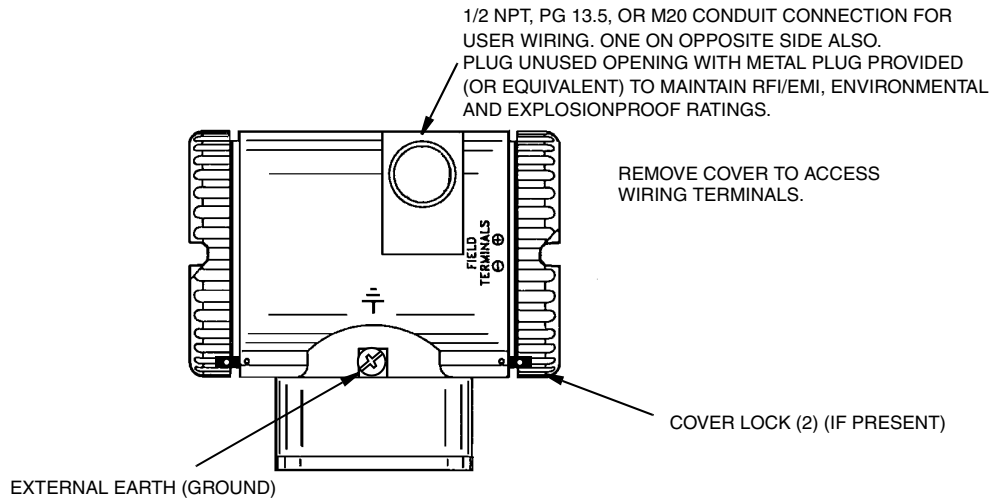
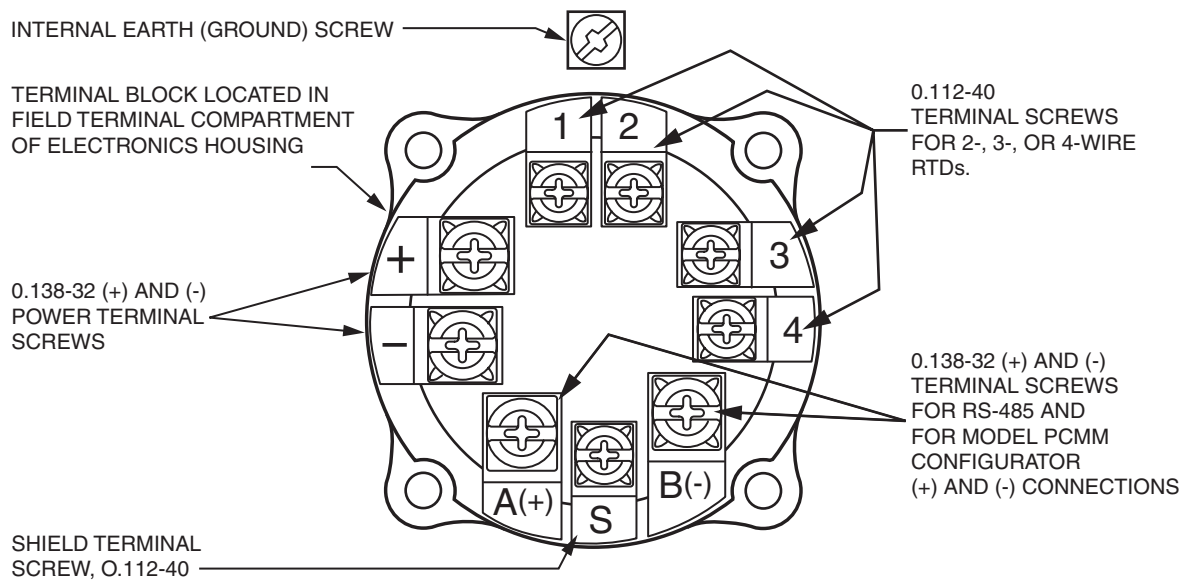
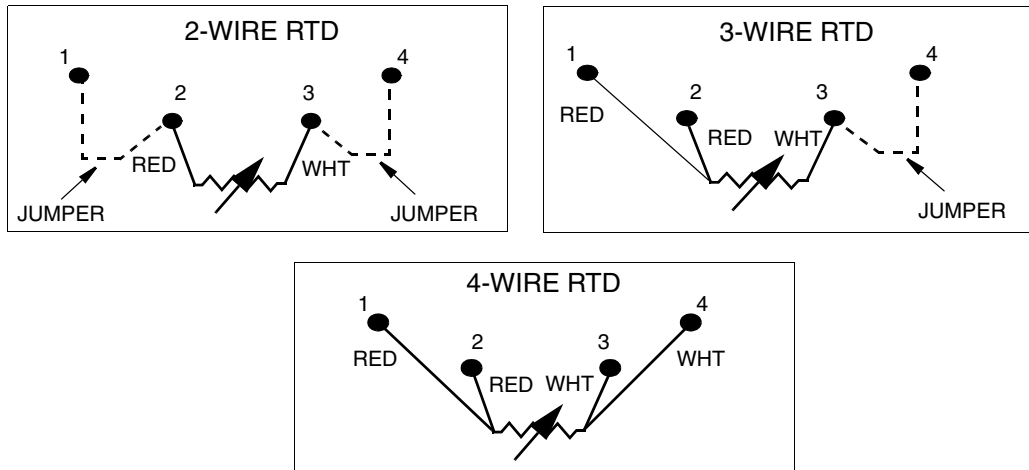

Figure 21. Accessing Field Terminals
Figure 22. Identification of Field Terminals
Figure 24. RTD Wiring
Electronic housing cover locks, shown in Figure 21, are provided as standard with certain agency certifications and as part of the Custody Transfer Lock and Seal option. To lock the covers, unscrew the locking pin until approximately 6 mm (0.25 in) shows, lining up the hole in the pin with the hole in the housing. Insert the seal wire through the two holes, slide the seal onto the wire ends and crimp the seal.
For access to the field terminals, thread the cover lock (if present) into the housing to clear the threaded cover and remove the cover from the field terminals compartment as shown in Figure 21. Note that the embossed letters **FIELD TERMINALS** identify the proper compartment. Identification of terminals is shown in Figure 22.
5. Connect an earth (ground) wire to the earth terminal in accordance with local practice. Ground terminal is shown in Figure 22.
6. Connect the signal wires to the transmitter “+” and “-” terminal connections shown in Figure 22.
7. The PCMM Configurator can be connected via the A and B terminals on the terminal block in the field terminal compartment as shown in Figure 22 to any convenient location in the loop (subject to hazardous location restrictions).
Connect your RTD to terminals 1, 2, 3 and 4. Locations are shown in Figure 22. Wire per Figure 24.